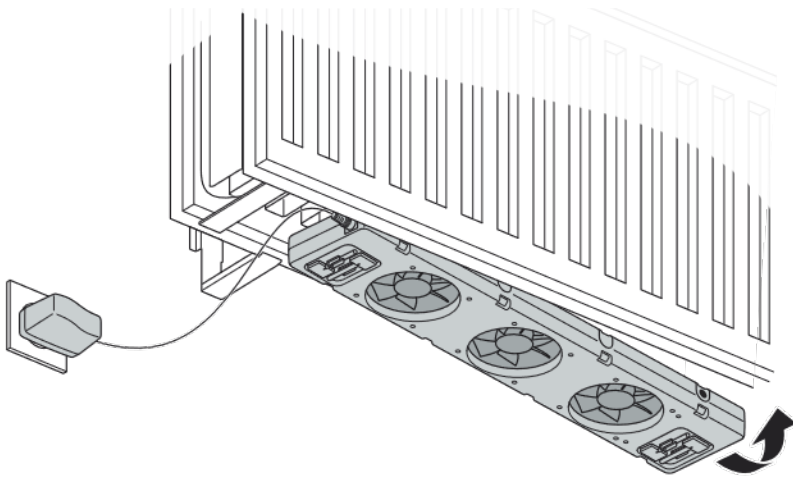

Fig. 2 - Attach the SpeedComfort (A).
- Identify a space where the radiator wall brackets and connecting clips are not in the way. Attach the **SpeedComfort (A)** at the bottom between the radiator plates with the **adjustable magnets (B)** (see fig. 2). The **SpeedComfort (A)** can also be attached on top of the radiator and under a cover. **NOTICE** Make sure the fans still face upwards!